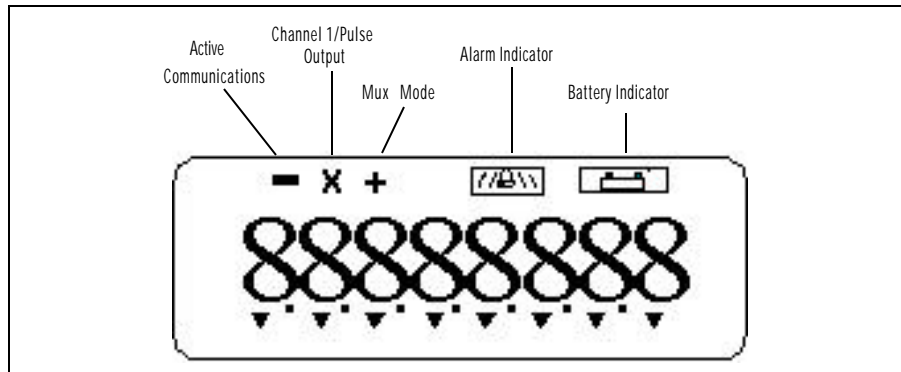

Figure 1.7 LCD Display
Figure 1.7 shows the LCD on the Dattus Gas Meter. The LCD provides eight (8) digits and symbols that offer indication of meter values.